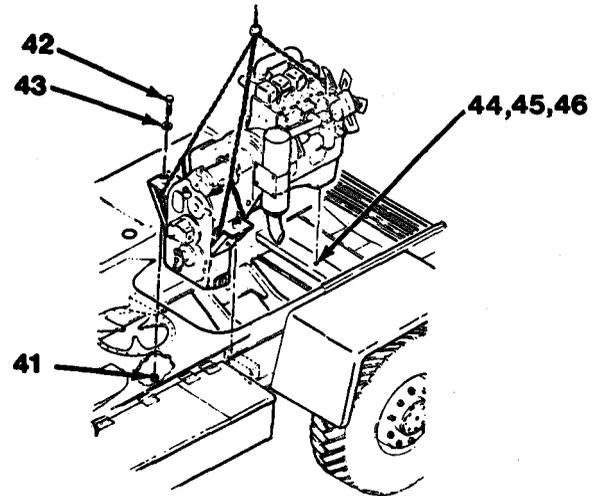

Figure 6-6
1. Using hoist and chains, lower engine/transmission assembly into position over frame. Slowly lower and guide engine/transmission assembly back into its location in frame. In front of engine install spacer (46), washer (45) and capscrew (44). In side of transmission install two spacers (43), capscrews (42) and nuts (41, Figure 6-6).